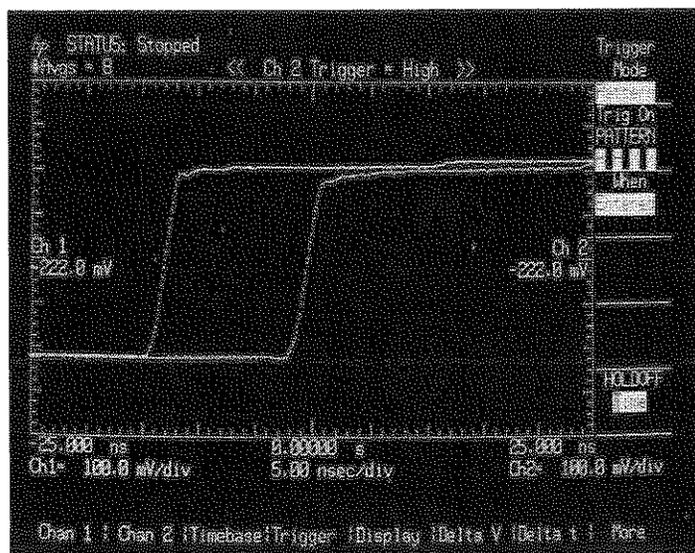
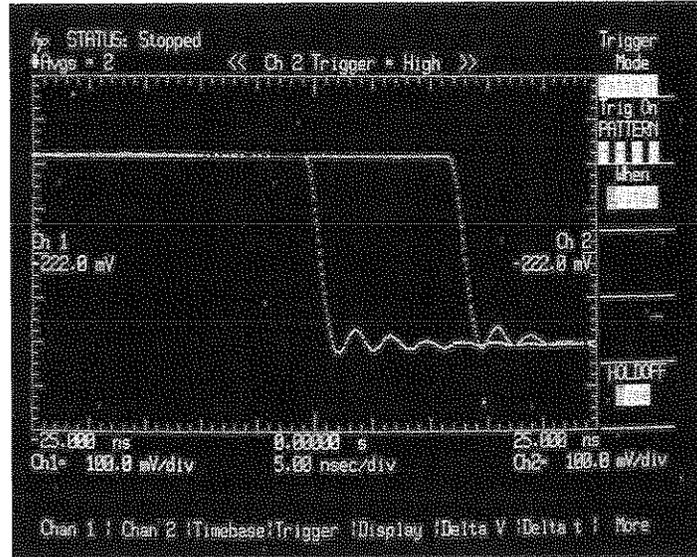

Figure 7-16. Pattern When Entered "HHXX"/"HHX"
Figure 7-17. Pattern When Exited
*In figures 7-16 and 7-17, the signal path for chan 2 is approximately 2 meters longer than that of the signal path for chan 1. This provides the time differential between the two signals.*
This menu allows triggering when entering or exiting a defined logic pattern. If the When Entered function is selected, the unit will trigger on the last pulse edge that makes the pattern true (see figure 7-16). If the When Exited function is selected, the unit will trigger on the first pulse edge that makes the pattern false (see figure 7-17).